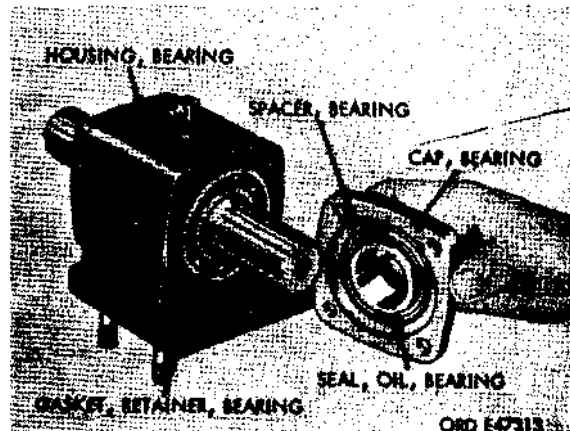

Figure 524. Removing bearing cap, oil seal, and spacer
- (3) Remove four cap screws and lockwashers from bearing cap. Remove bearing cap, spacer, oil seal, and cap gasket from bearing housing (fig. 524).